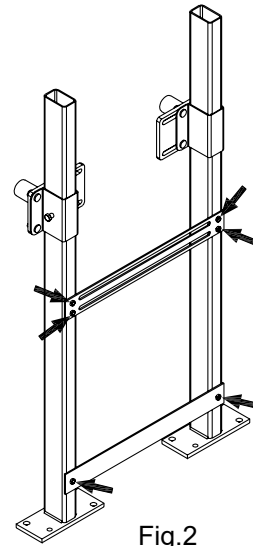

Fig.2
2. Remove screws from the cross bars. Set all of the screws (6) and the cross bars (2) aside, for re-assembly later. See Fig. 2